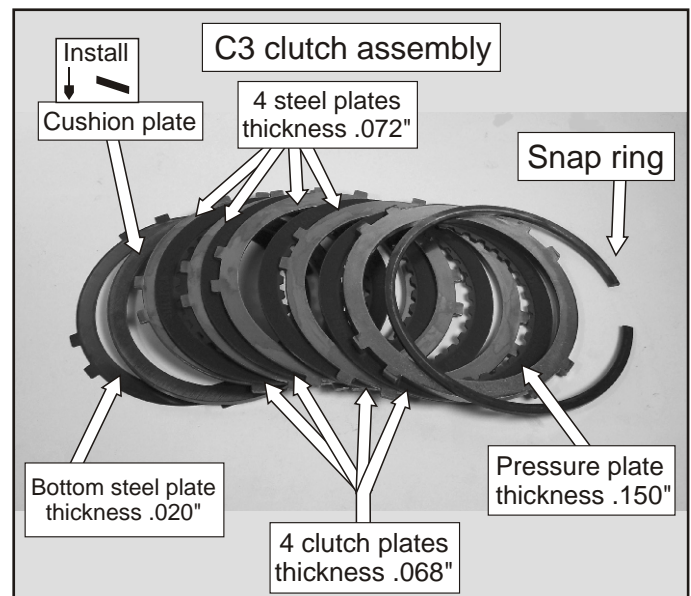

Figure 146
93. Install the C3 clutch assembly into the C3 drum as shown in Figure 147, using Figure 146 as a guide. Install the .020" bottom steel first, then install the cushion plate in the direction shown in Figure 146. Install the remaining clutch plates, steel plates, pressure plate and snap ring. Using a feeler gage check clutch clearance between the pressure plate and the top clutch plate. The clearance should be .032" - .038."